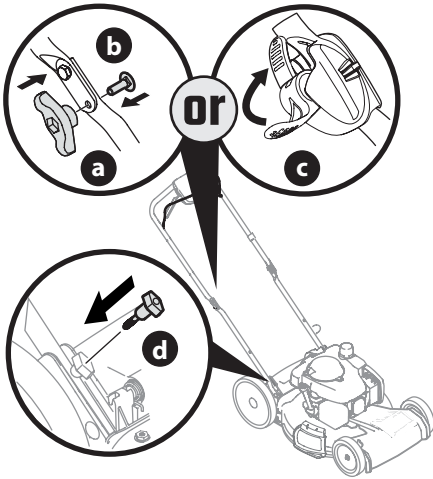

Figure 8
- Reattach knobs or wing nuts (a) and carriage bolts (b) removed in STEP 1 into lower holes of the handle or lock the EZ-fold handle release levers (c) (Figure 8).
- Using the T-bolts (d) removed in STEP 2, secure the lower handle to the handle brackets (Figure 8) and tighten securely to secure the handle in place.